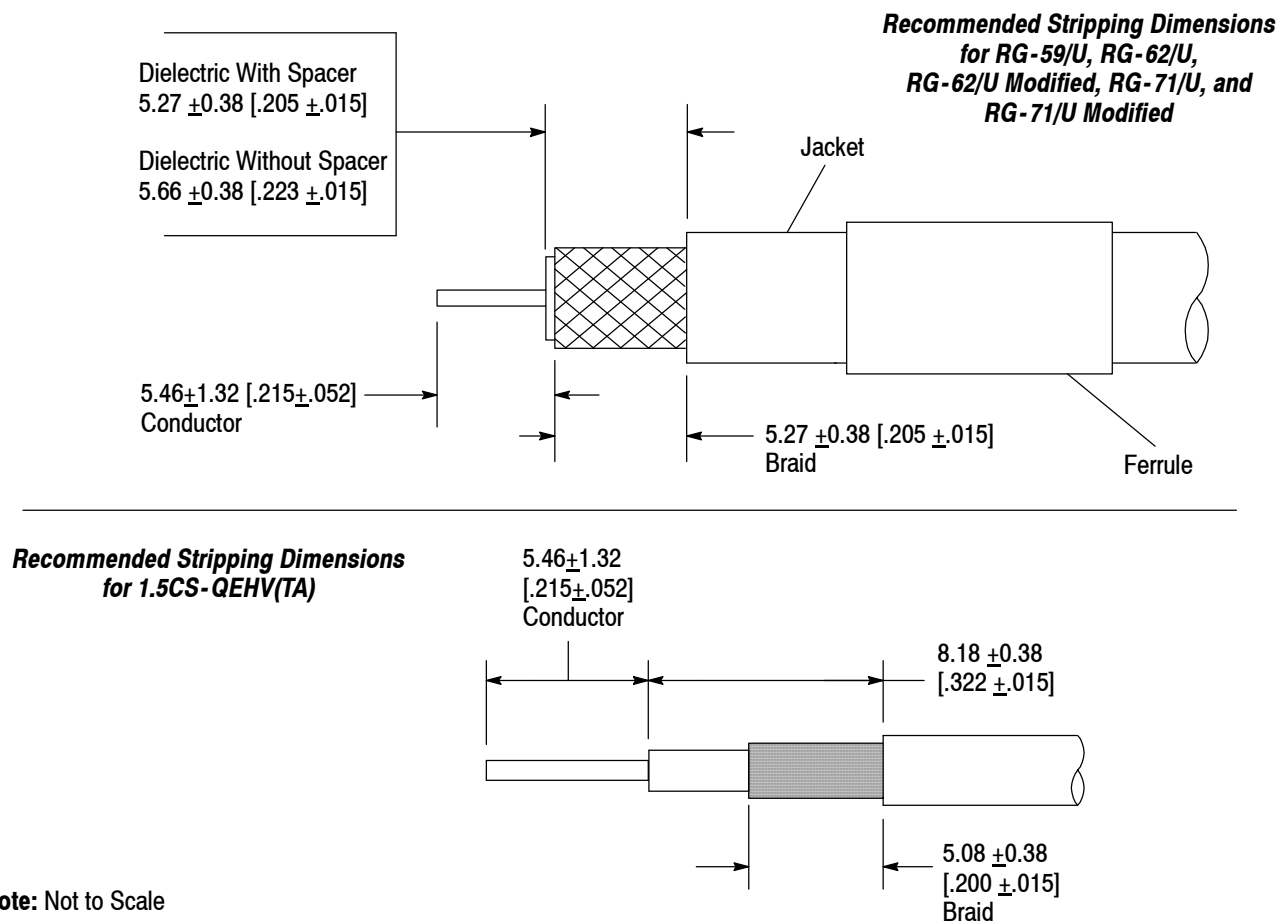

Figure 2
2. Proper strip length is necessary to properly insert the center conductor into the contact. Reasonable care must be taken not to nick, scrape, or cut the center conductor or any strands of the braid during the stripping operation. The strip length of the cable is shown in Figure 2.